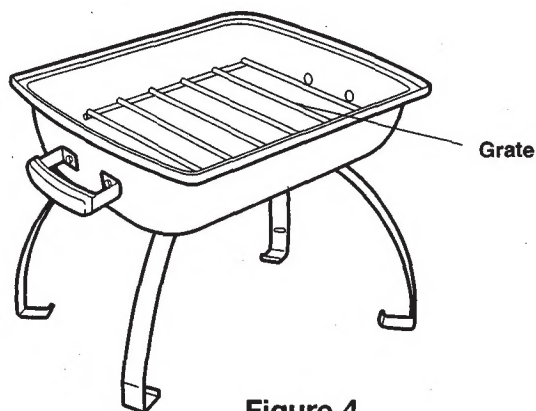

Figure 4
4. Rest grate in firebox. (Figure 4).